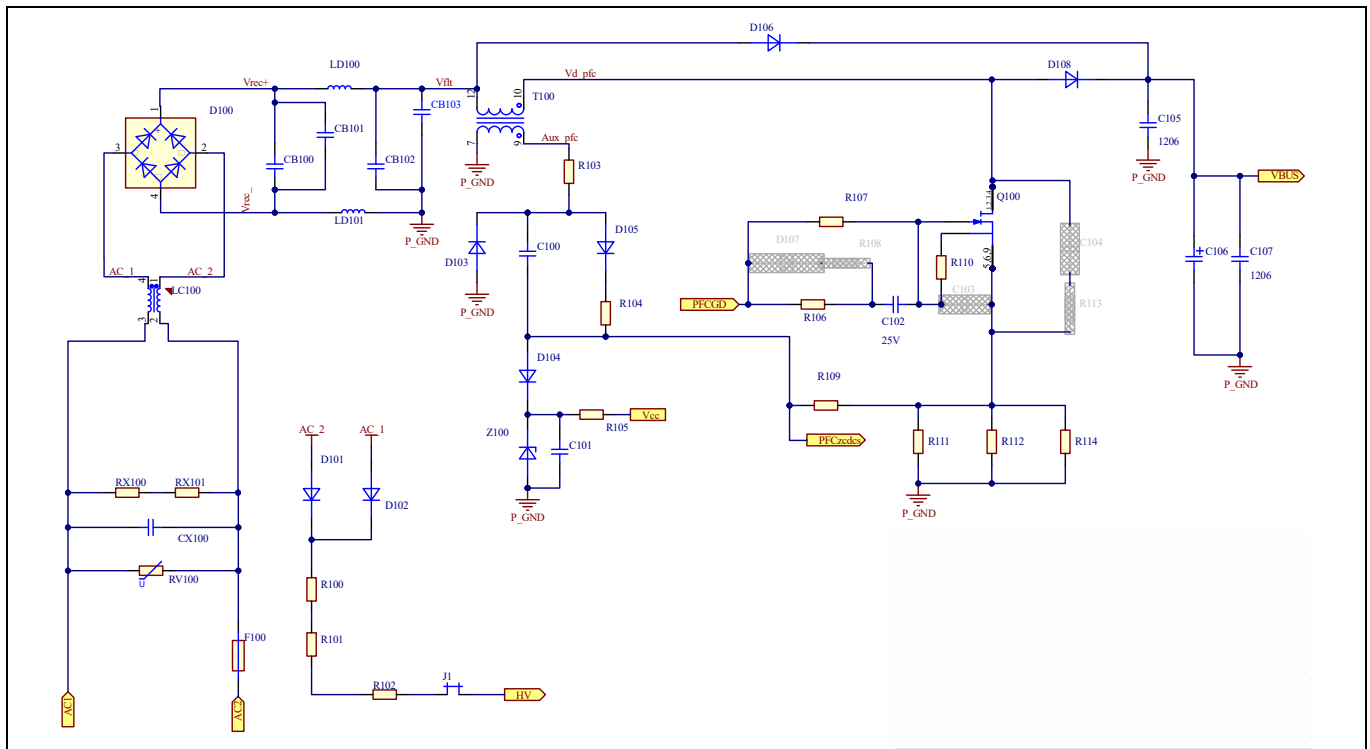
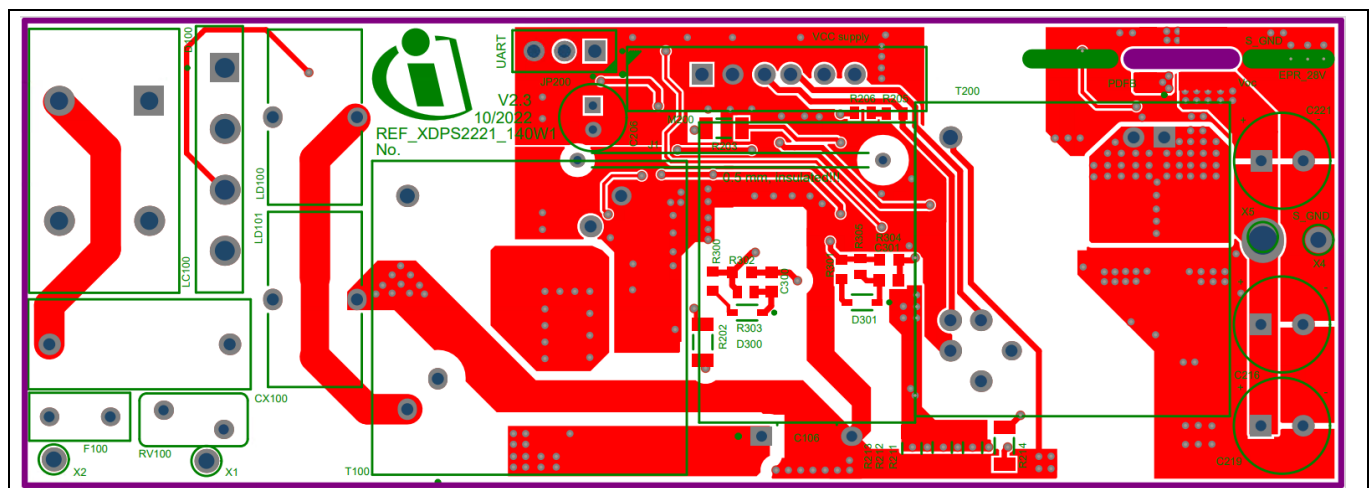
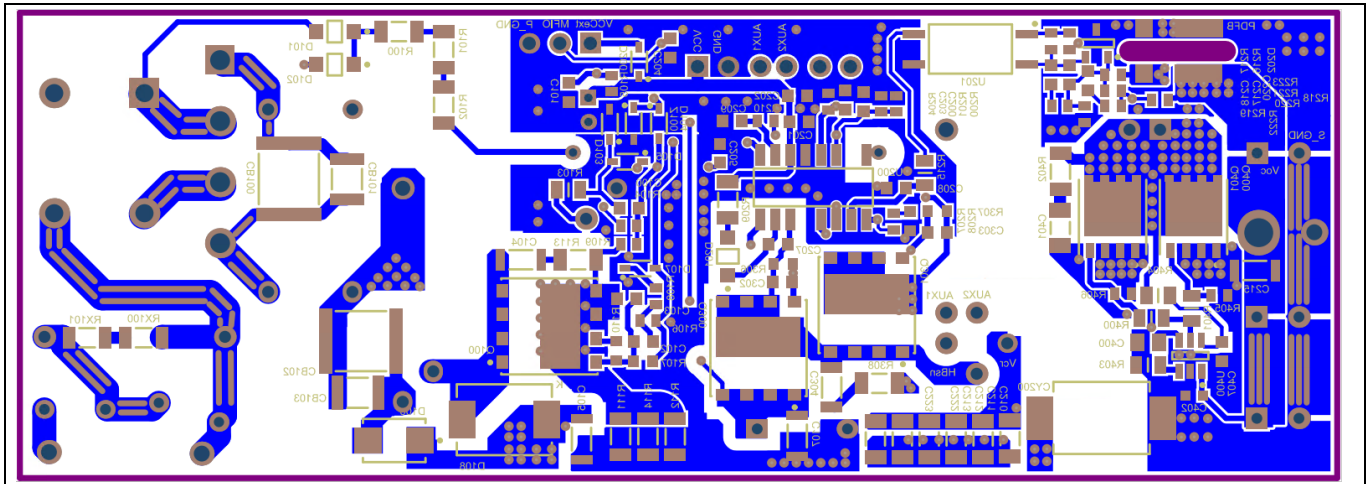

Figure 5 PFC stage schematic
Figure 9 **Main board PCB: top side**
Figure 10 Main board PCB: bottom side
The schematic and PCB layout of the main board are shown in Figure 5 to Figure 10. Not assembled parts are greyed-out in the schematics.
Figure 5 shows the power circuitry of the AC input and PFC stage, including the input protection and EMI filter (RV100, CX100, RX100, RX101, LC100, D100, CB100, CB191, LD100, LD101, CB102, and CB103), and the start-up cell external circuit (D101, D102, R100, R101, and R102). The PFC zero-crossing detection (ZCD) and current sensing (CS) signals are combined into a single signal, PFC_{zcdcs} , which is connected to IC pin PFCCS. The voltage at the PFC auxiliary winding, which is coupled to the PFC main inductance (T100) is processed by the devices R103, D103, D105, R104, C100, D104, Z100, C101, and R105 to generate the ZCD signal, where D103 is for the negative clamping, and the network D104, Z100, C101, and R105 limits the positive voltage of the ZCD signal. Per resistor R109, the ZCD signal is effectively de-coupled from the PFC CS resistors R111, R112, and R114, which provide the CS signal to the control IC. A CoolGaN™ device is used as the PFC main switch, Q100, and it is driven directly by the XDP™ XDPS2221 from the PFCGD pin with the external RC network (R107, R106, and C102).
To keep system costs low, two-layer PCBs are used for all boards. Figure 9 and Figure 10 show the PCB layout of the main board.